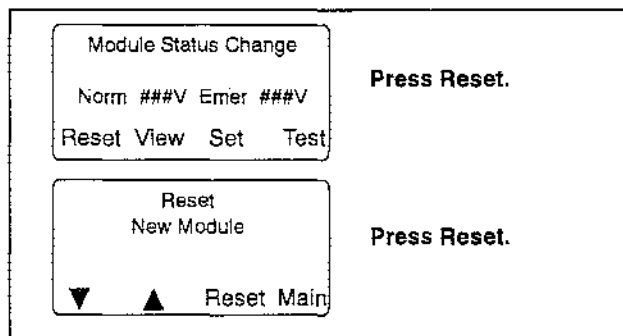

Figure 8-7 Screens after Module Connection
Installing or reconnecting one or more accessory modules triggers the Module Status Change message. See Figure 8-7. Press the Reset button to display Reset New Module. Press the Reset button from that screen. The controller recognizes the module type(s). See Figure 8-8.
8. Close the enclosure door and reconnect power to the ATS. The display will show *Module Status Change*. See Figure 8-7.